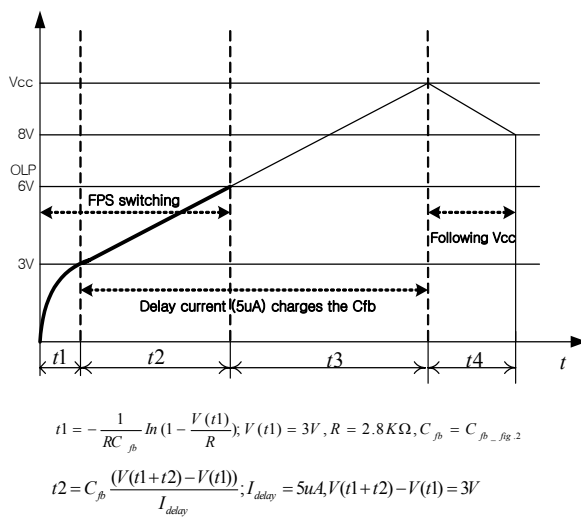

Figure 6. Over load protection
**4.1 Over Load Protection (OLP) :** Overload is defined as the load current exceeding a pre-set level due to an unexpected event. In this situation, the protection circuit should be activated in order to protect the SMPS. However, even when the SMPS is in the normal operation, the over load protection circuit can be activated during the load transition. In order to avoid this undesired operation, the over load protection circuit is designed to be activated after a specified time to determine whether it is a transient situation or an overload situation. In conjunction with the Ipk current limit pin (if used) the current mode feedback path would limit the current in the Sense FET when the maximum PWM duty cycle is attained. If the output consumes more than this maximum power, the output voltage (Vo) decreases below the set voltage. This reduces the current through the opto-coupler LED, which also reduces the opto-coupler transistor current, thus increasing the feedback voltage (Vfb). If Vfb exceeds 3V, the feedback input diode is blocked and the 5uA Idelay current source starts to charge Cfb slowly up to Vcc. In this condition, Vfb continues increasing until it reaches 6V, when the switching operation is terminated as shown in figure 6. The delay time for shutdown is the time required to charge